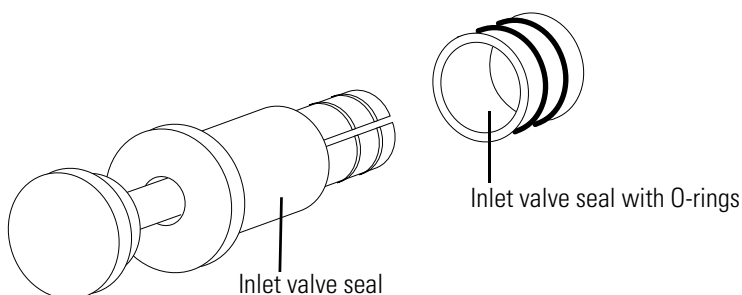

Figure 6-43. Inlet valve seal disengaged from tool
8. Loosen the knob to disengage the seal. See Figure 6-43.